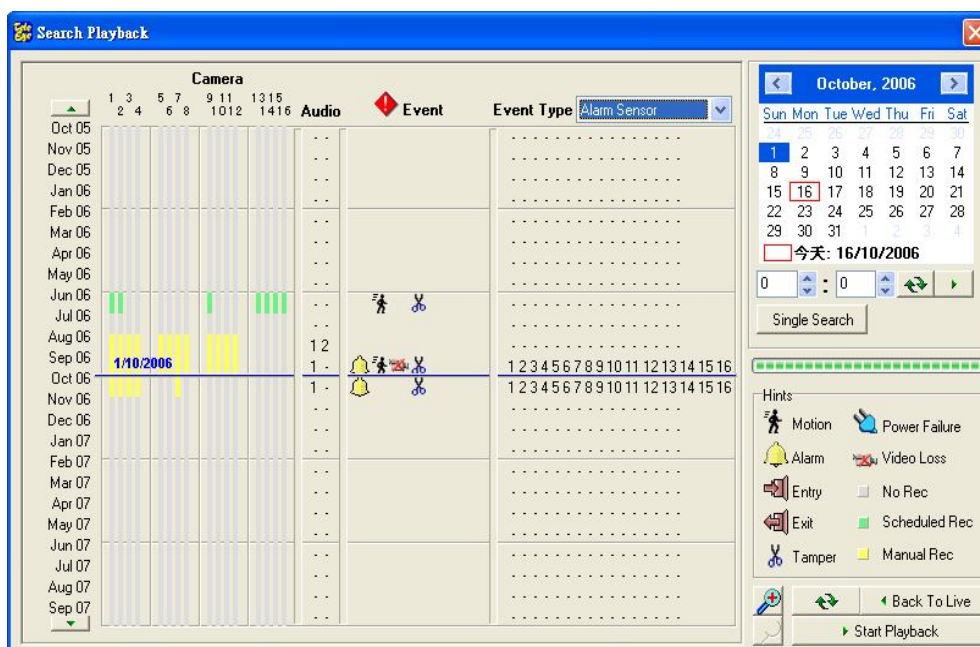

Fig 7.2b
Step 2 : {**Search Playback**} panel pop up as shown on. User can find out event occur at which time interval and select the record video to watch as shown on **Fig 7.2b**. There are three event type: Alarm Sensor, Motion Detection and Video Loss.